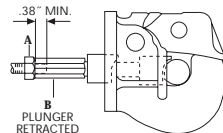

Figure 1
- Use (4) .75" grade 8 fasteners, properly tightened.
- Loosen cylinder rod jam nut (A) as shown in Figure 1.
- Turn the plunger rod (B) out (counterclockwise) a distance equal to the difference between your mounting structure thickness and 1"
- Retighten cylinder rod jam nut (A) securely.
- Check the plunger adjustment. When properly adjusted, the plunger should tightly grip a 1.25" round bar (or plunger adjustment toll TF-03147) when energized (see Figure 1) and retract far enough when de-energized to allow easy removal of the drawbar.